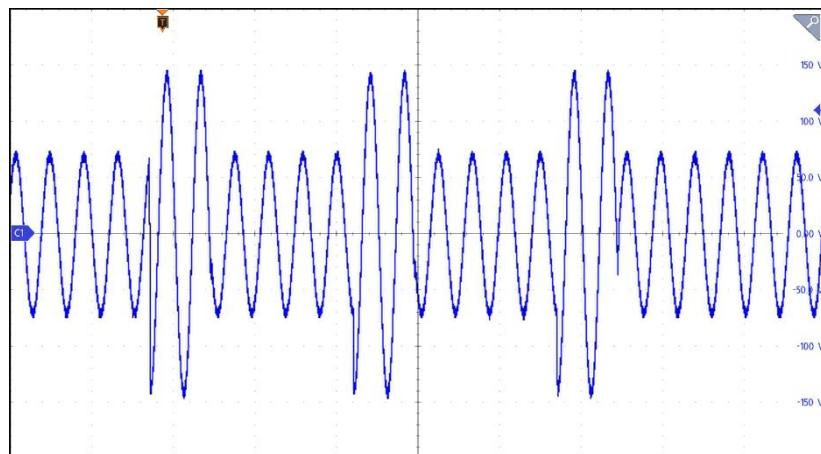

Figure 5-23 Pulse Mode Setting Page (Example Output Waveform for Phase 1)
6. After setting the parameters, tap the Home key **Home**, press the OUTPUT ON key, and then tap **TRIG. ON** to trigger the output. The output waveform is shown in Figure 5-23.